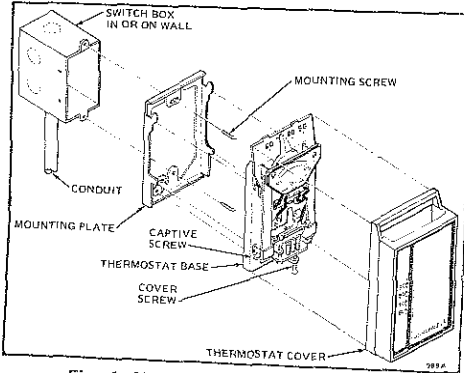

Fig. 1—Mounting on vertical outlet box.
To mount the plate, fasten the mounting plate to the outlet box. Do not tighten the screws. See Fig. 1.
4. Hang thermostat on the mounting plate hooks. Fasten thermostat by tightening the captive screw (Fig. 1)